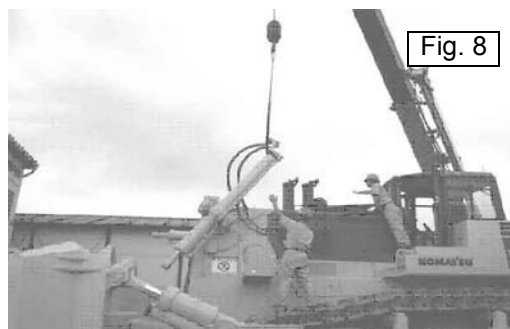

Fig. 8
5.1) Sling the hydraulic cylinder with the belt sling and remove the transportation sling bracket. (Fig. 7), (Fig. 8)